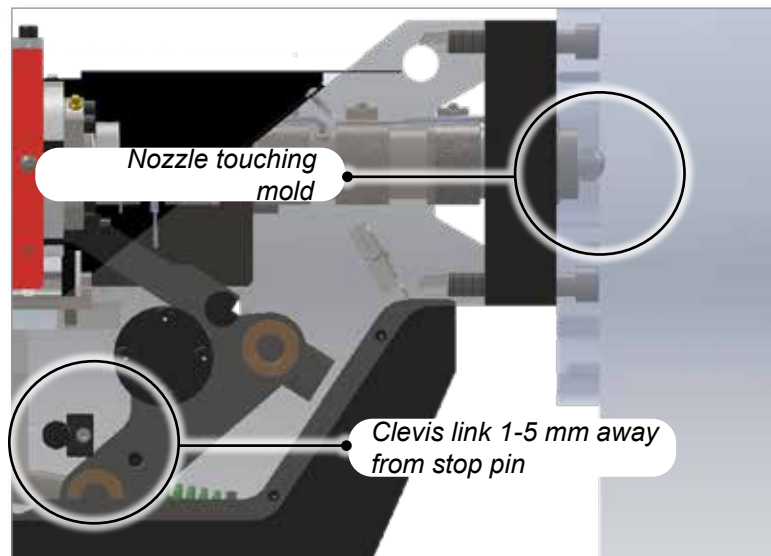

Figure 9-3 Nozzle touching mold
7. Use the adjuster screw to move the nozzle forward until it just touches the manifold inlet as shown in Figure 9-3.